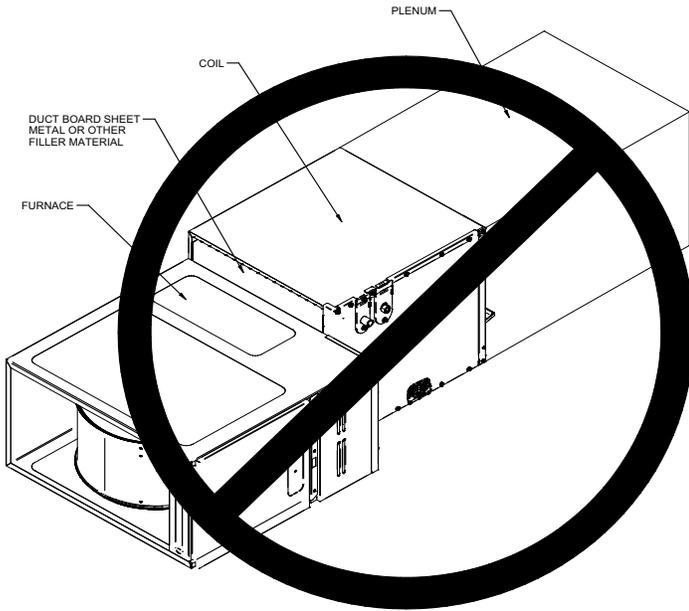

Figure 4
2. Please use Z-Bracket provided with units to fill the transition gap between furnace & coil when coil is one size larger than furnace. Additional gaps must be filled with insulated tape or putty to prevent air leakage. Figure 4 indicates incorrect coil/furnace attachment method.